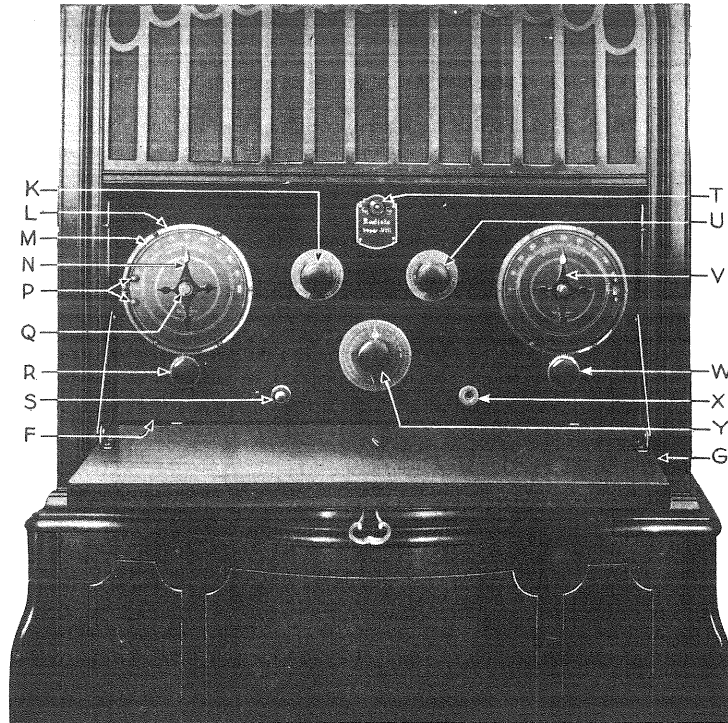

Fig. 3. Front View of Control Panel
*Filaments.* Turn the “VOLUME CONTROL” knob U (Fig. 3) clockwise to 100. Turn the “BATTERY SETTING” knob K clockwise up to the arrow mark near 47 on the dial. **WITH FRESH BATTERIES, DO NOT TURN THE POINTER PAST THAT POINT. THIS IS EXTREMELY IMPORTANT,** as you will otherwise shorten the useful life of the Radiotrons and batteries, and little will be gained in ease of tuning, signal strength or otherwise. As the batteries grow older with use, this should be *gradually* advanced from week to week toward “100.” Push in the amplifier switch S, which gives the full amplification of the receiver.
The connections referred to above are made as shown in Fig. 3. The two "B" batteries are connected in series by fastening the "+ 22.5" (red) lead of the first battery to the negative "-" binding post of the second. The negative "-" binding post of the first battery is connected by a flexible lead (a 20-inch length of No. 18 rubber covered lamp cord, or equivalent) to the Adapter terminal marked "-45B." The "+22.5" (red) lead of the second battery is connected by a second flexible lead to the "+45B" Adapter terminal. The junction between the battery and flexible lead may be made by using a machine screw (say No. 8-32 by ¼ in. long) with nut and lock washer, or by soldering, if convenient. In any case, make the joint securely and cover it with friction tape. (In case a 45-volt "B" battery is used in place of the above, connect the negative "-" and "+45" binding posts to the "-45B" and "+45B" Adapter terminals respectively.) On the "C" battery, connect the "-" binding post and the "+22.5" (red) lead to the "-22C" and "+22C" Adapter terminals, respectively. Use the screw or soldered joint on the battery lead, as described above, and insulate it with friction tape.